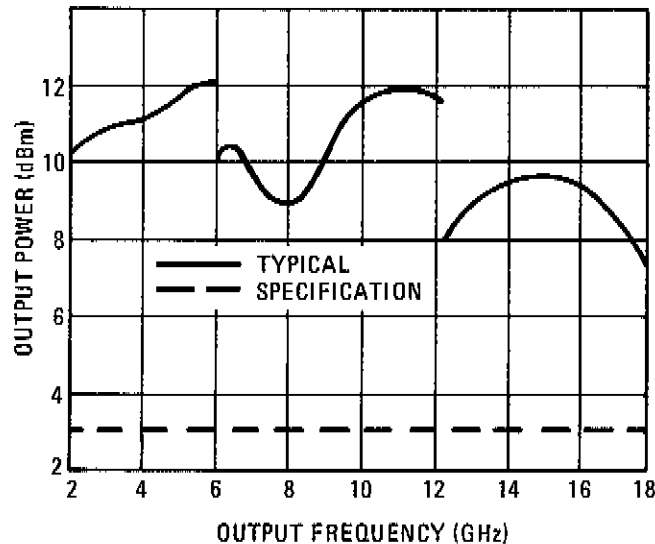

Figure 4-1. Typical Maximum Power Available on the +10 dBm Range (over-range)
3. Tune from 2 to 18.0 GHz in 100 MHz steps. The power should remain above +3 dBm over the entire frequency range. Figure 4-1 shows a typical output level curve. Be sure the NOT PHASE LOCKED annunciator is off before making power measurements.